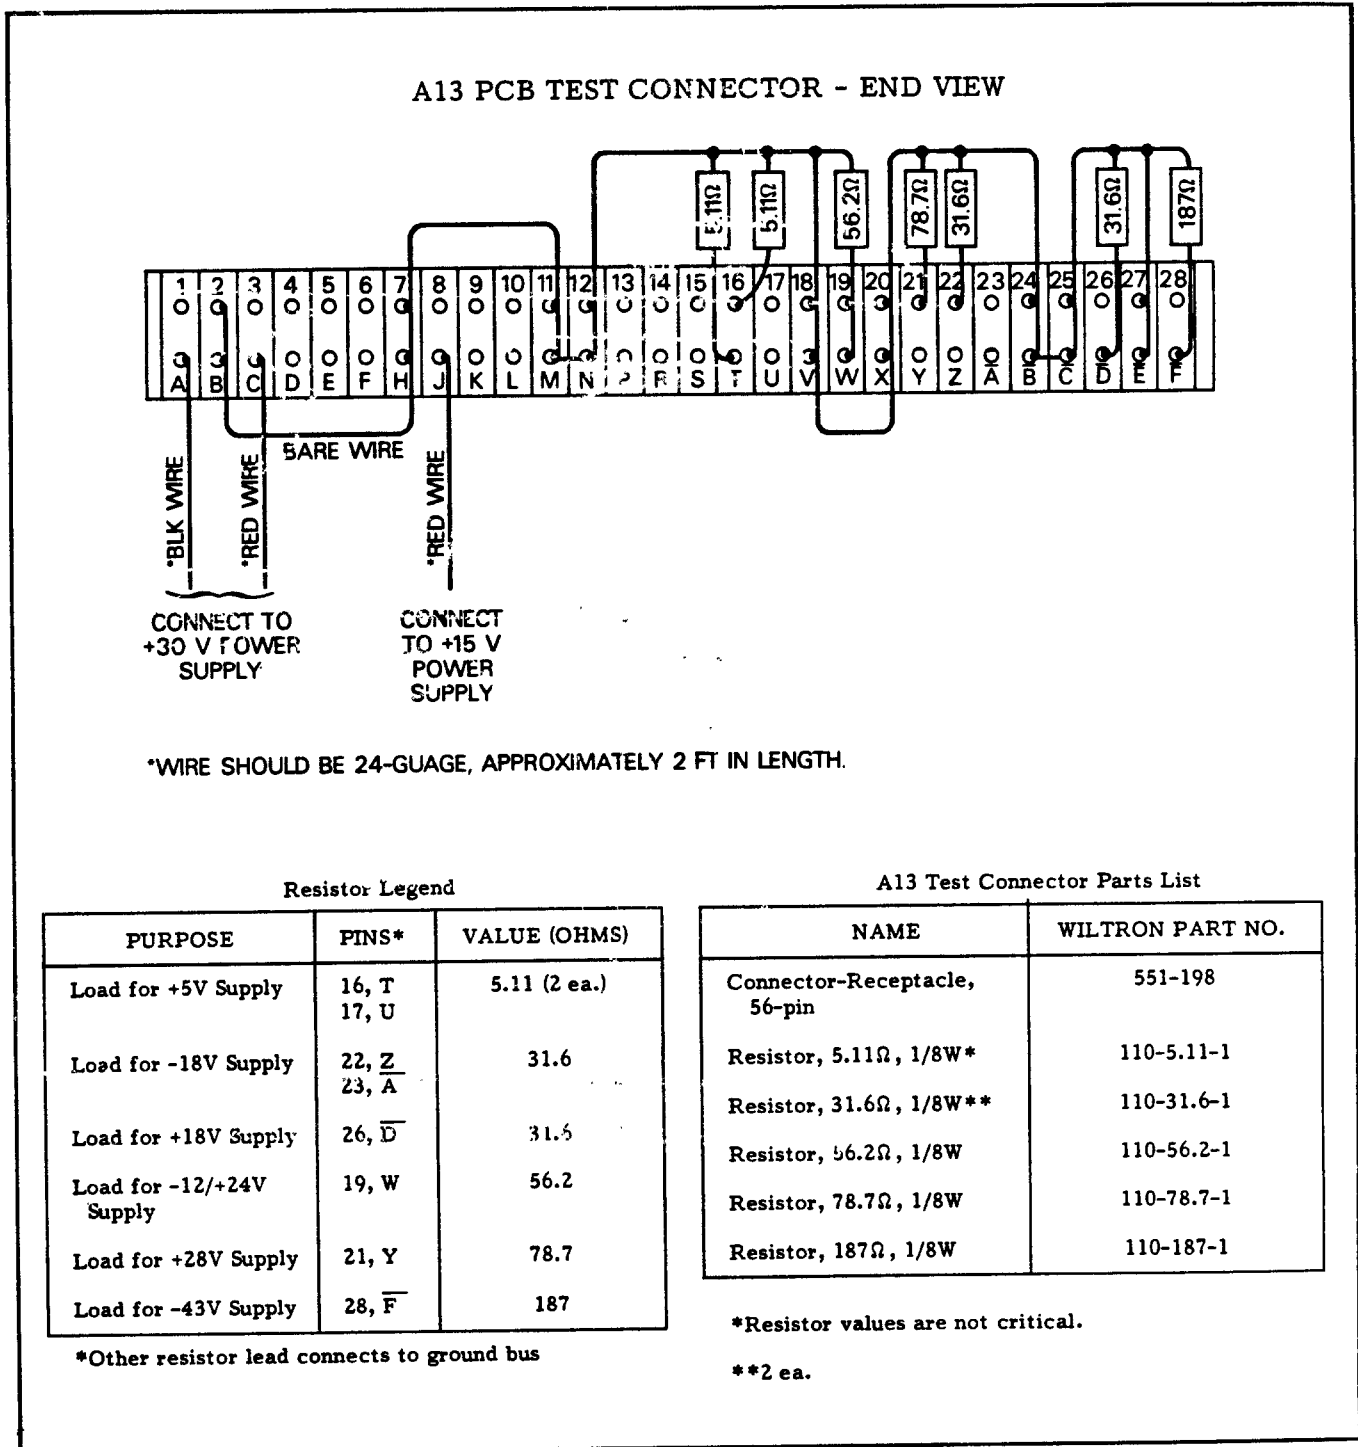

Figure 7-90a. A13 PCB Test Connector
2. Install the A13 PCB Test Connector (Figure 7-90a).
7. Connect the 30V supply as shown in Figure 7-90a, but DO NOT TURN IT ON.
9. Using Channel B of the oscilloscope, check the waveforms at U4, pins 11 and 13, and at the emitters of Q3 and Q4. These waveforms should resemble those in figures "A" thru "D" below. Varying the +5V variable supply's voltage should cause the pulse width (PW) to vary: 0V should provide maximum PW, and  $\approx 6.5V$  should shut the circuit down (both the test and sync signals will disappear).